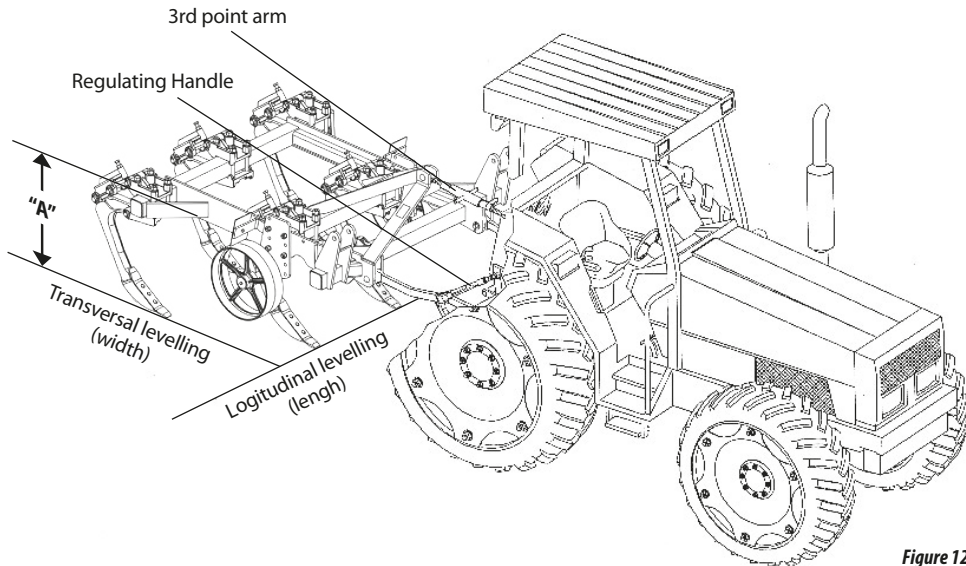

Figure 12
- 11 - The tractor must be on flat place, then level the subsoiler in the transverse (width) through the lower right crank arm of the hydraulic coupling. Observe the measures "A" which should be the same as Figure 12.
- 12 - The leveling longitudinal (length) is made by the 3rd point arm. Note that the rods must be parallel to the ground as Figure 12.